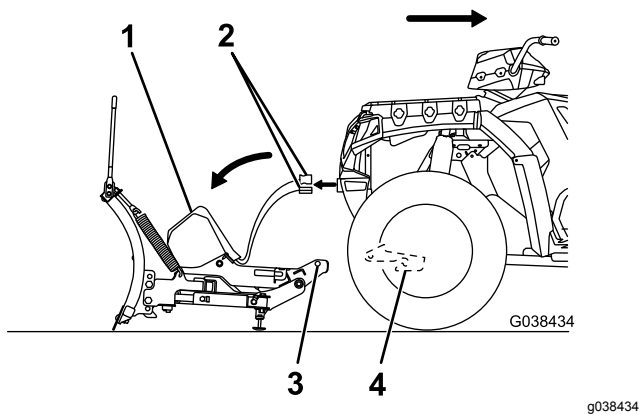

Figure 24
- Using the coupler handle, lower the coupler tower completely (Figure 24).
- Disconnect the plow wire harness from the vehicle wire harness and secure the electrical-plug dust-covers (Figure 24).